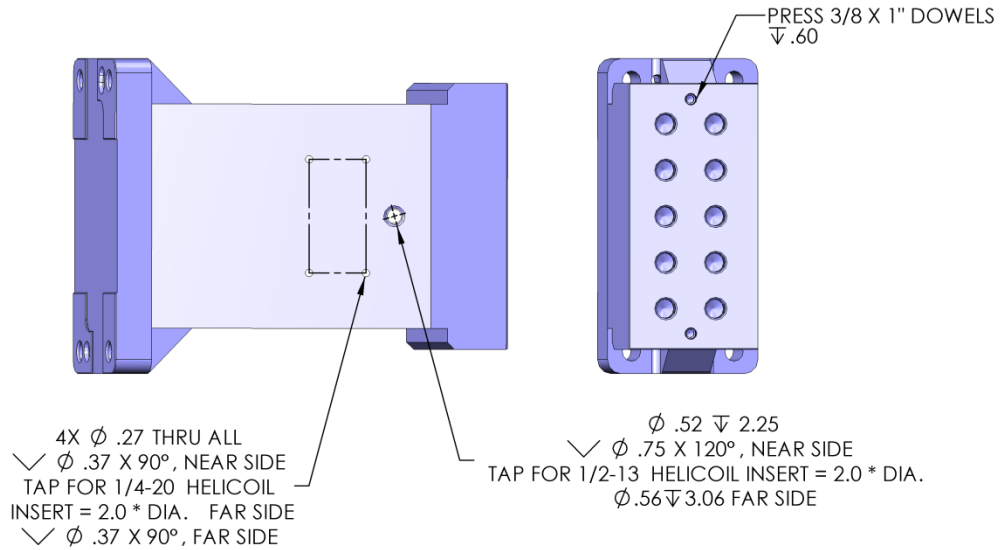

Figure 16
1. Apply helicoils and dowel pins as shown Figure 16